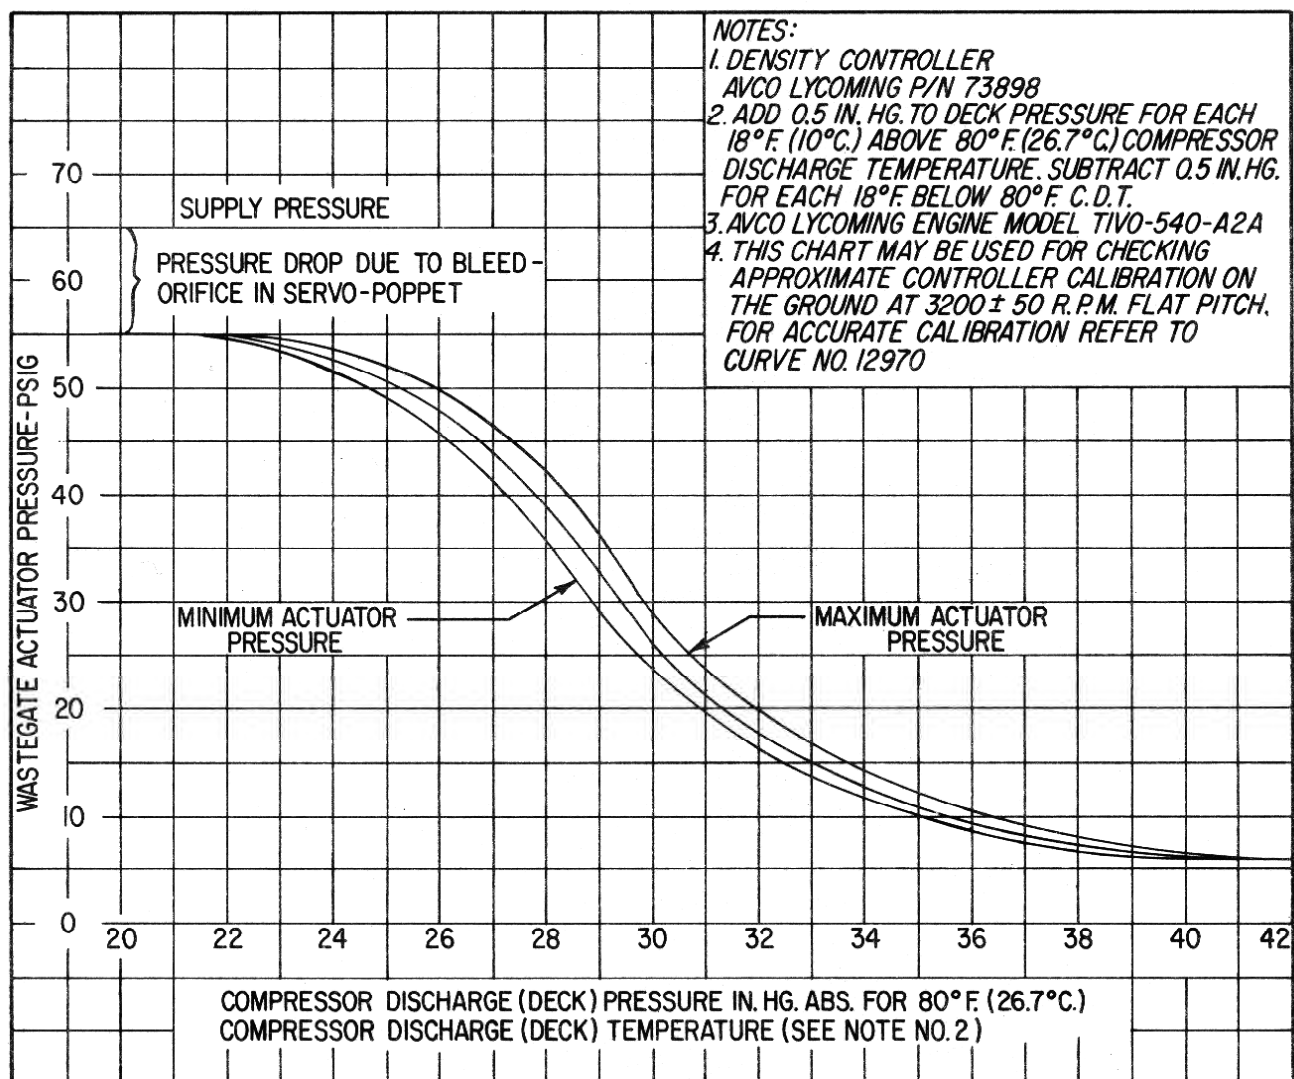

Figure 5-4. Approximate Calibration Chart for Density Controller
- (1) Install a 100 psi gauge to “Tee” at waste gate actuator inlet.
- (2) Install a 100 psi gauge at actuator outlet.
- (3) Start the engine and operate at 3200 RPM in flat pitch. The actuator pressure must fall within the limits of the curve for the deck pressure developed by the turbine. For example, see Figure 5-4, if the deck pressure is 30 in. hg., and the supply pressure between 55 and 65, then the actuator pressure must be between 24 and 28.5 psi on the outlet side of the actuator
- (4) If the actuator pressure is not within limits the density controller must be adjusted as previously described.